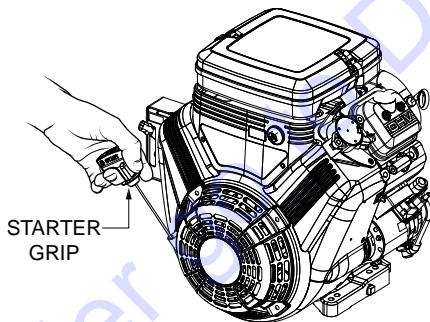

Figure 18. Starter Grip
- Grasp the starter grip (Figure 18) and slowly pull it out. The resistance becomes the hardest at a certain position, corresponding to the compression point. Pull the starter grip briskly and smoothly for starting.